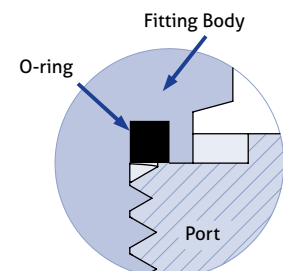

Figure 21:
3. Elastomeric (ED) seal or P-Flex seal. A precision groove is machined on the bottom of the fittings hex with a seal installed in this groove. For the parallel fittings, the threads are for holding power or clamping force only and the seal occurs on the spot face. For tapered BSPT fittings the holding and sealing is done in the threads with the help of a pipe sealant such as PTFE tape or an anaerobic liquid. (Figure 21)